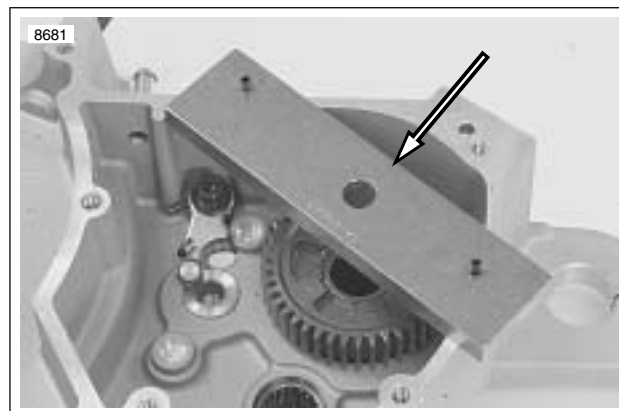

Figure 6-78. Bearing Remover Cross Plate Mounting (Part No. B-45847)
1. See Figure 6-78. Locate MAIN DRIVE GEAR REMOVER AND INSTALLER (Part No. HD-35316-A). Place cross-plate pins in appropriate holes in transmission case.